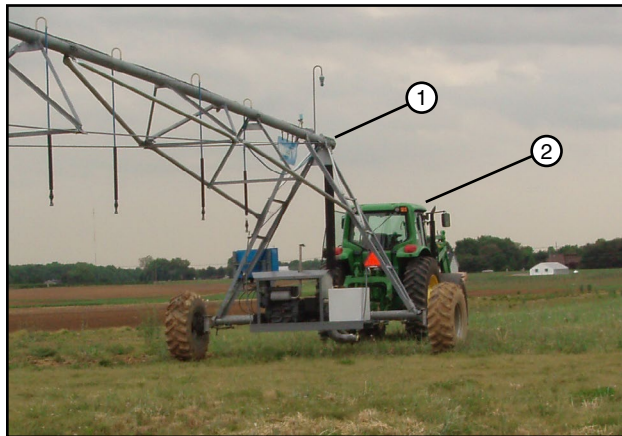

Figure 62-2 1. Single Span Linear
5. Attach the tongue to the towing unit. See figure 62-2.